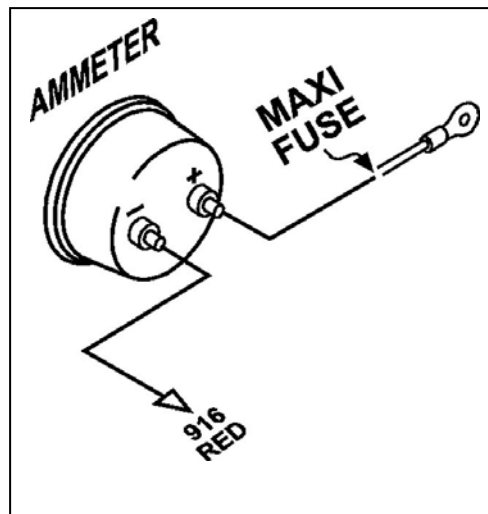

Figure 8.1 Ammeter & Maxi-Fuse
8.1 Connecting an Add-On Ammeter and the Maxi-Fuse. See Figure 8-1.